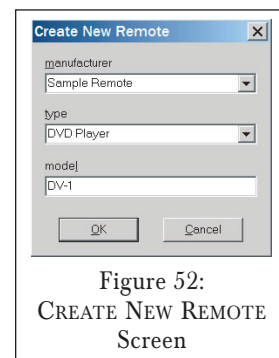

Figure 52:
- a) Open the REMOTE menu and select NEW. The CREATE NEW REMOTE screen (*Figure 52*) will appear.